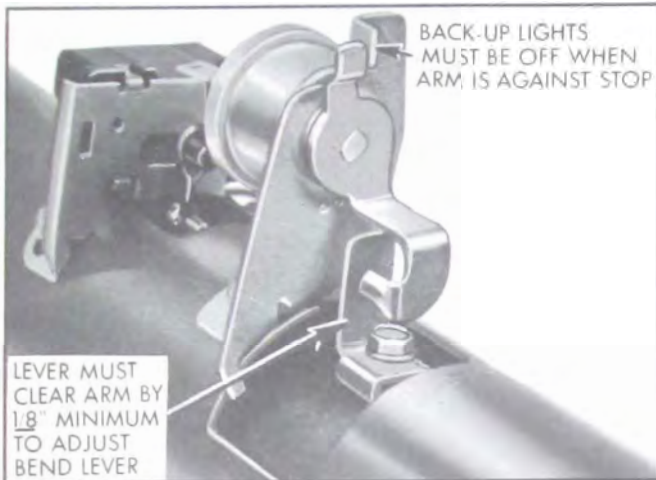

Figure 10-51—Back-up Light Switch - Second Gear
turned on only in reverse as the lever is not in position to pick up the switch arm when the shift is made to other gears. Figure 10-51 shows position of lever to switch arm when transmission is in second gear. A slotted switch mounting screw hole permits movement of the switch sideways on the mast jacket for proper locating. To adjust switch, proceed as follows:
check position of operating lever to switch arm. There should be at least 1/8" clearance. If necessary bend lever. See Figure 10-51.
4. If back-up lights are on all the time, check to see if switch arm is against its stop when transmission is not in reverse. See Figure 10-51. If arm is against stop, try bending stop to reposition arm and turn lamps off.